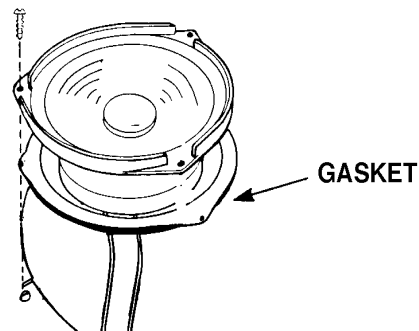

Figure 2. 102 Flush-Mount Driver Replacement
4.3 Secure the driver to the enclosure with the three screws. Do not overtighten. **(See Figure 2)**